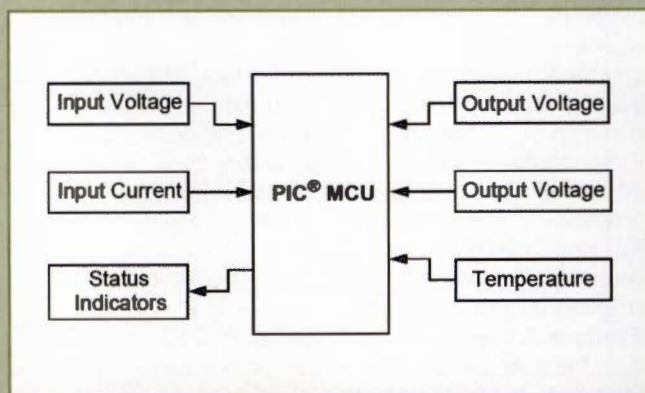

Figure 1: Block diagram PIC MCU
Most telecom and industrial systems use a power architecture like that shown in **Figure 1**, where AC is converted to a system-wide 48VDC distribution bus, which is then converted at each application board to a 12V intermediate bus, which is again converted down to the core application voltages (1.8V, 2.5V, 3.3V, etc.) The advantage of this architecture is that each link in the modular power chain is in itself very simple, reducing application design time and time to market.
Modular simplicity and expandability are hallmarks of the power distribution architecture shown in Figure 1, but such ease-of-design comes at a cost. The main downside is that three power converters connected in series detracts the overall system efficiency as shown by:
For example, if the efficiency of each block in Figure 1 is 90%, the overall system efficiency is 73%. If, however, the efficiency of each converter stage is improved by 1%, the overall efficiency jumps by 2.3% to 75.3%. It's not hard to see that in a large distributed system, with dozens, or hundreds of boards, a small improvement in efficiency at each conversion stage adds up to a significant power savings.
**Figure 1:** To keep power system design simple, AC power is converted to a 48VDC distribution voltage. Each system board converts 48V to an intermediate DC bus voltage, for example 12V, which is fed to non-isolated point-of-load buck converters